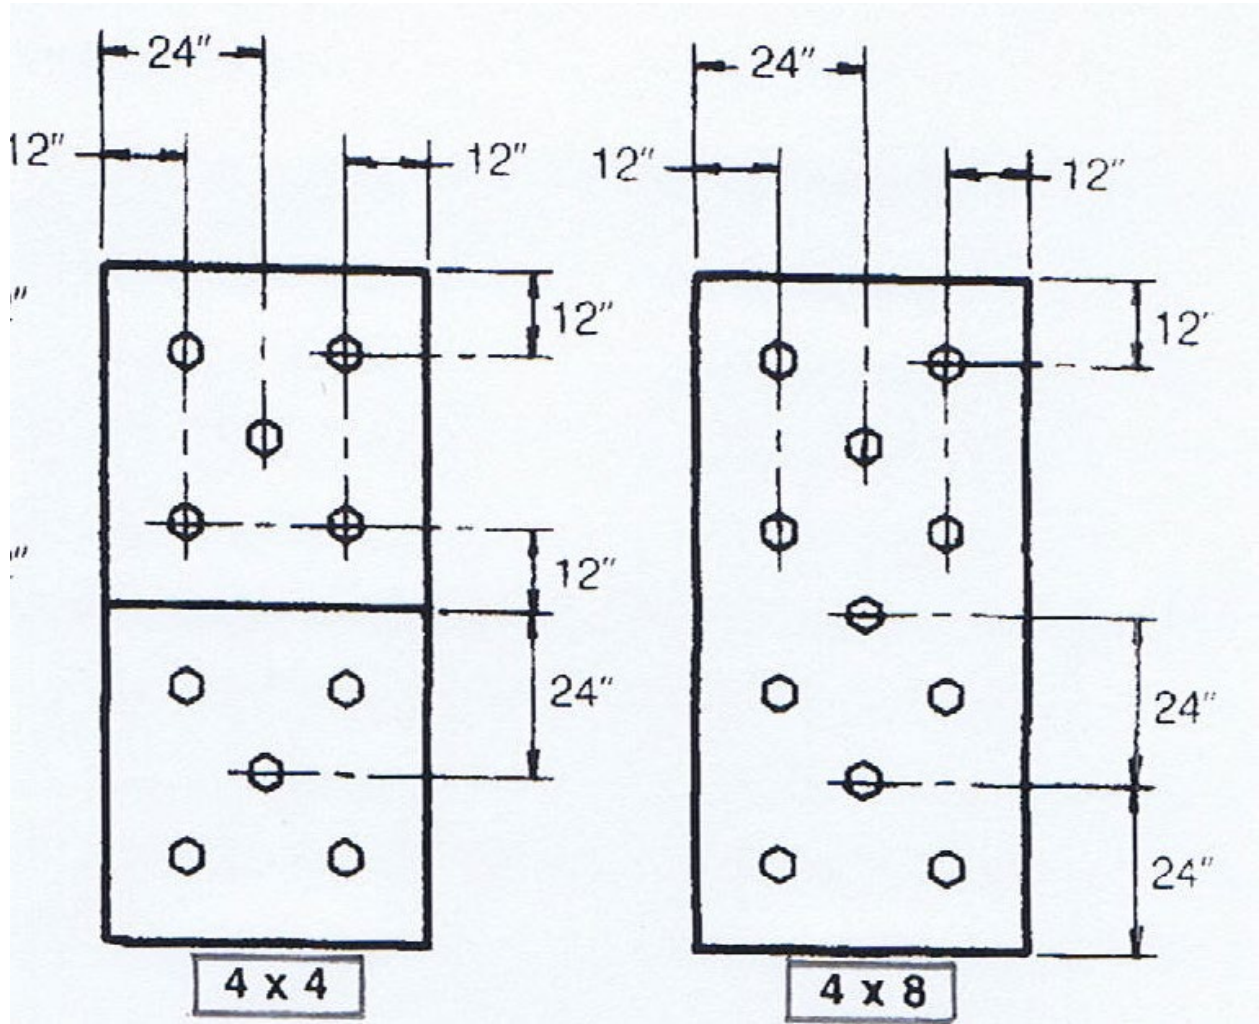

Figure 1. Insulation Fastening Patterns
**Insulation:** 2" rigid insulation, H-Shield roof insulation by Hunter Panels. Secured to the steel deck with Dekfast No. 14 x 4-1/2" long insulation deck fasteners and Dekfast steel stress insulation plates. The insulation plates are 2-7/8" across the plate and can be hexagonal, square, or circular. Use a minimum of five (5) fasteners per 4x4 ft board or ten (10) fasteners per 4x8 ft board. The fasteners must have a minimum penetration of 5 threads through the bottom of the deck. Refer to Figure 1 for insulation fastening patterns.
**Roofing Panels to Steel Deck:** The roofing panels are secured to the steel deck in accordance with Table 1. The roofing panels are secured to the steel roof deck with an 18-gauge, one-piece, hook-style, steel clip, manufactured by Petersen Aluminum, with dimensions of 3.5" wide x 1-7/8" high. The clips are located at panel ends and are spaced as specified in Table 1. The clips are secured with either two (2) Dekfast No. 14-10 x 5" SFS Intec self-drilling fasteners with No. 3 drive slot or two (2) 14-13 x 4-1/2" Triangle Fastener Corporation DP1 Concealor pancake head fasteners with No. 3 square drive. The clips use a 5" x 6" x 24-gauge metal bearing plate. The fasteners must have a minimum penetration of 5 threads through the bottom of the deck. The female rib of the panel is engaged over the male rib and field seamed.